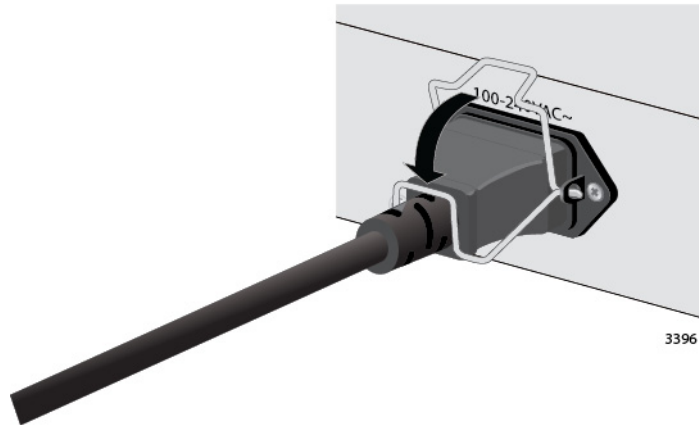

Figure 40. Lowering the Retaining Clip
5. Secure the power cords to the switches by lowering the retaining clips. See Figure 40.